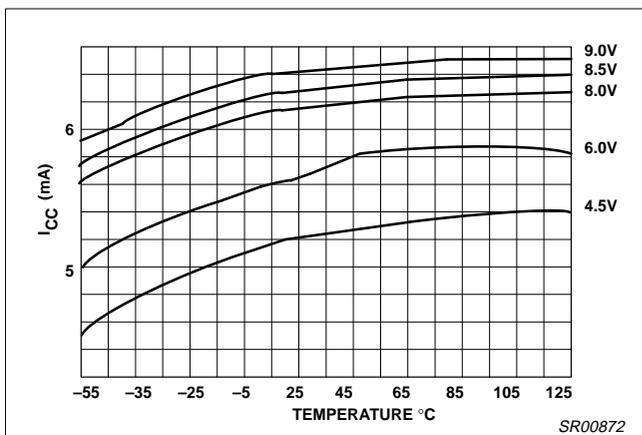
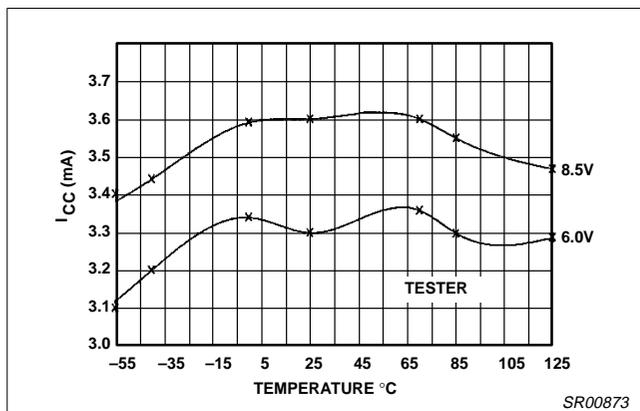

Figure 33. NE605  $I_{CC}$  vs Temperature
Figure 34. NE604A  $I_{CC}$  vs Temperature
**A.** The NE605 consumes about 5.6mA of current at 6V. This level is slightly temperature and voltage dependent as shown in Figure 33. Similar data for the NE604A is shown in Figure 34.